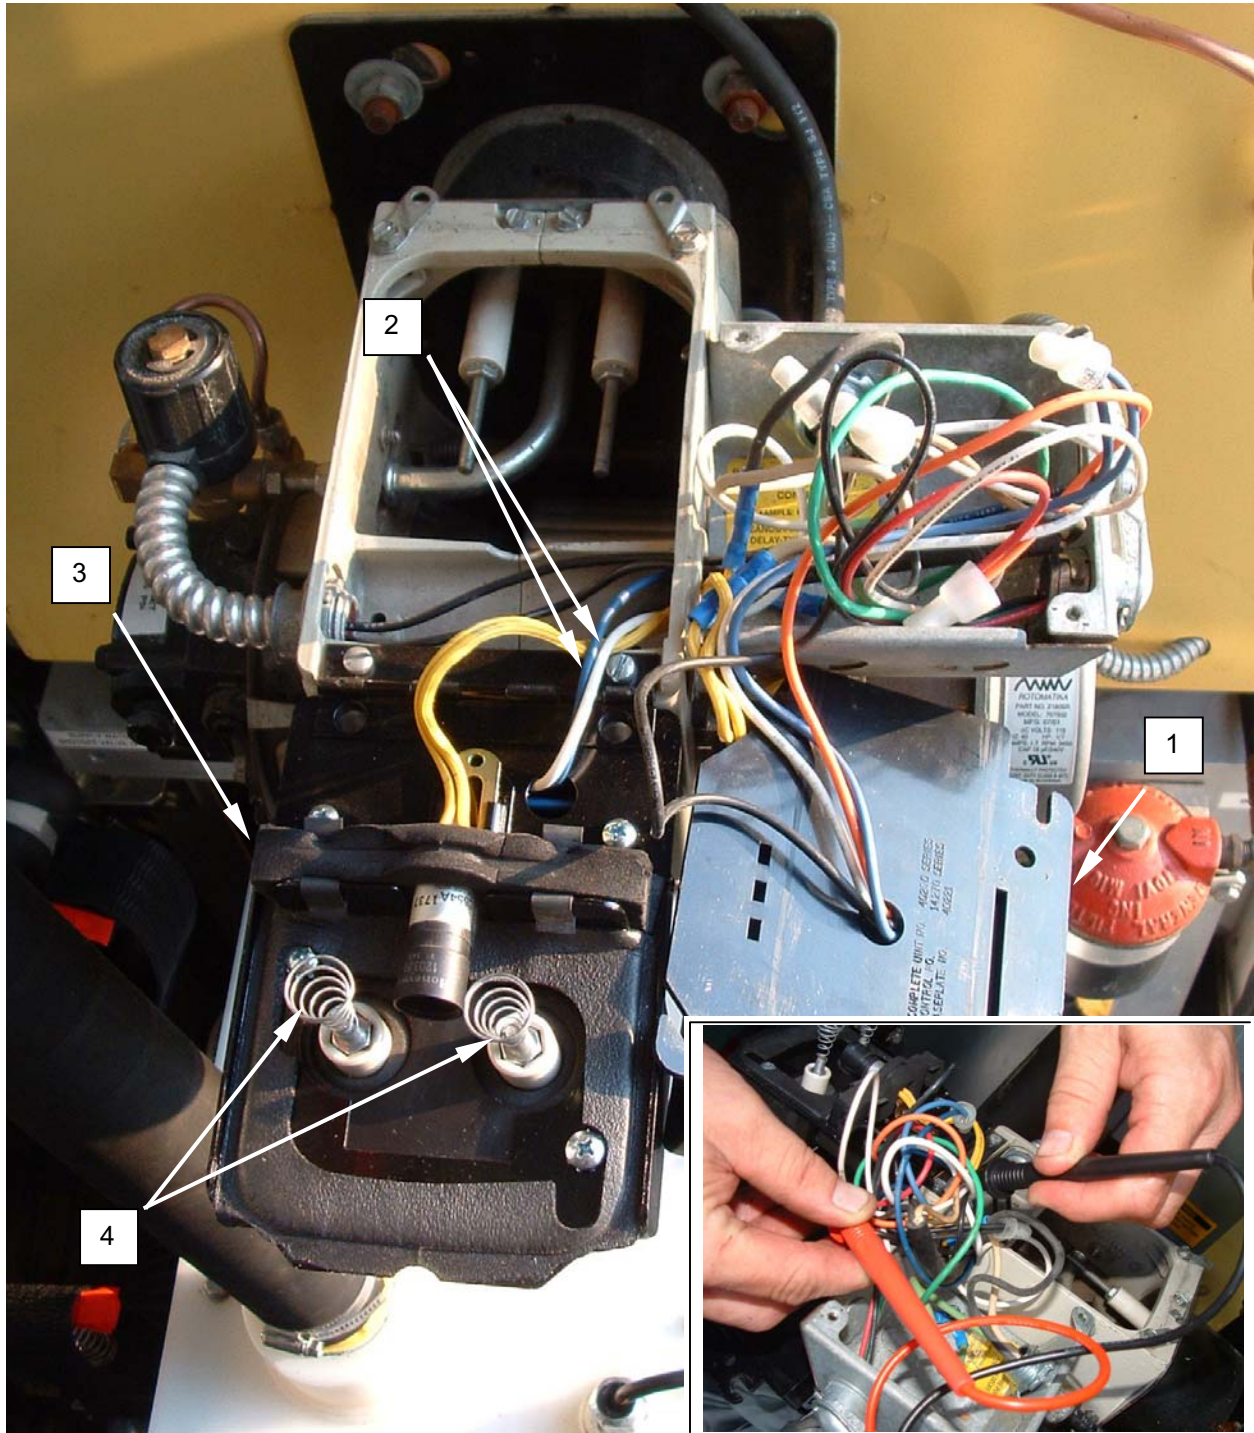

Figure 2. Test the Burner Transformer.
2. Remove the screws retaining the transformer (**Figure 2, Item 3**), and flip the transformer back.
3. Remove screw retaining burner primary control (**Figure 2, Item 1**) and remove burner primary control.
4. Tag and disconnect the wiring (**Figure 2, Item 2**).
5. Use an ohmmeter to test for 90,000 – 100,000 ohms resistance between the two wires (**Figure 2, Item 2**).
6. Use an ohmmeter to test for 250,000 ohms resistance between the two spring terminals (**Figure 2, Item 4**).
7. Replace an open or shorted transformer (**Figure 2, Item 3**).
9. Install burner primary control (**Figure 2, Item 1**) and retain with screw.
10. Flip the transformer (**Figure 2, Item 3**) back in operating position and retain with screws.